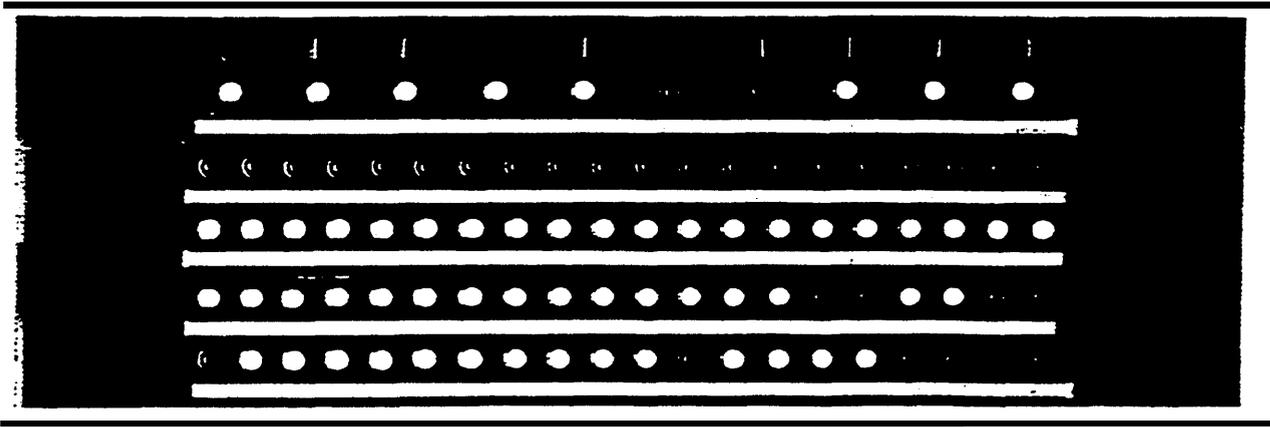

Figure 3A. View of Office Alarm Frame Panel Pilot Lamps.
1.09 Office alarm frame panel lamps (red or green) indicate the general nature of the trouble causing the alarm. For a typical office alarm frame panel in a small office, see Fig. 3A. It is usually relay rack mounted in a central location. In some offices, a